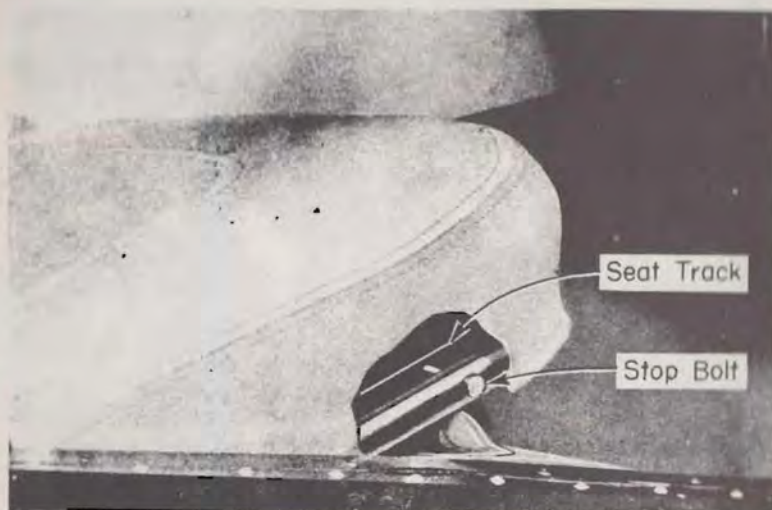

Figure 9—Seat Track Stop Bolt
16. Access to the battery when located under the pilot's seat is gained by lifting seat. Slide pilot's seat forward as far as possible and slide right seat aft as far as possible. Remove the Phillips head screw that attaches the seat cover to the base. Remove the seat stop bolt, illustrated in figure 9. Slide seat full forward after removing bolt and lift on front edge of cushion. Seat will tip up and aft permitting access to the battery.